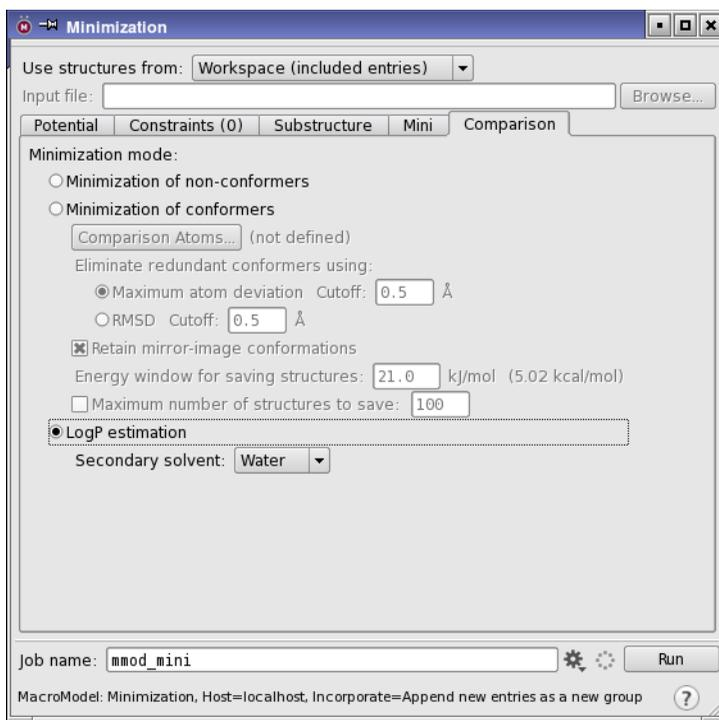

Figure 5.6. The Minimization panel showing LogP selected in the Comparison tab.
6. In the Comparison tab, select LogP estimation and choose Water from the Secondary solvent option menu (see Figure 5.6).